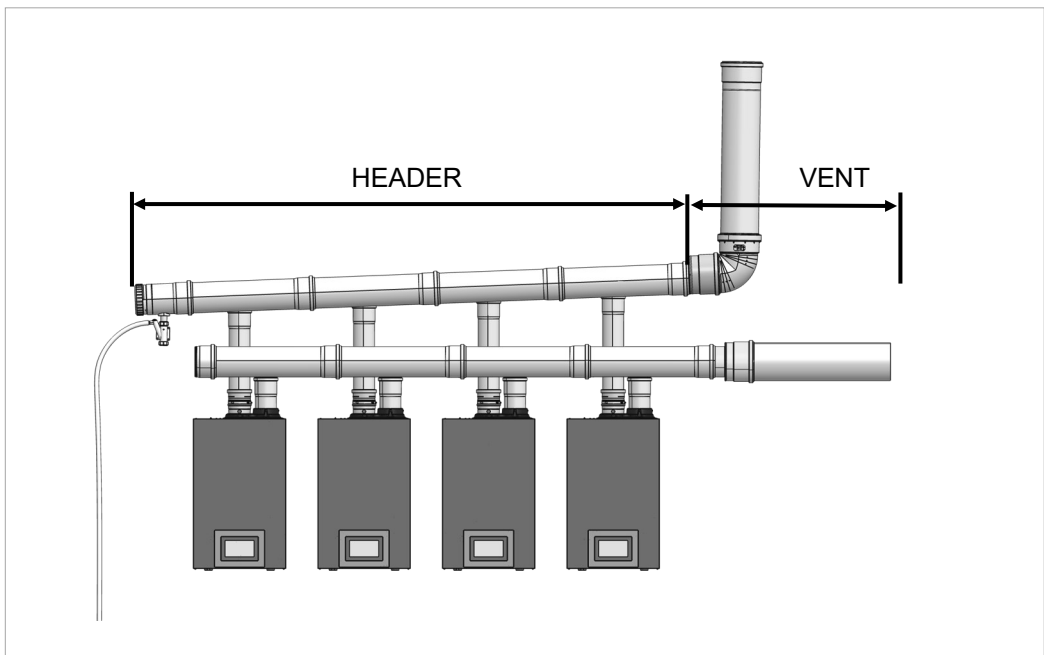

Fig 7. Header and Vent Length
- Header is the main vent pipe into which several vents connect (Fig 7).
- Vent Length is the distance from the end of the header to the vent termination (Fig 7).